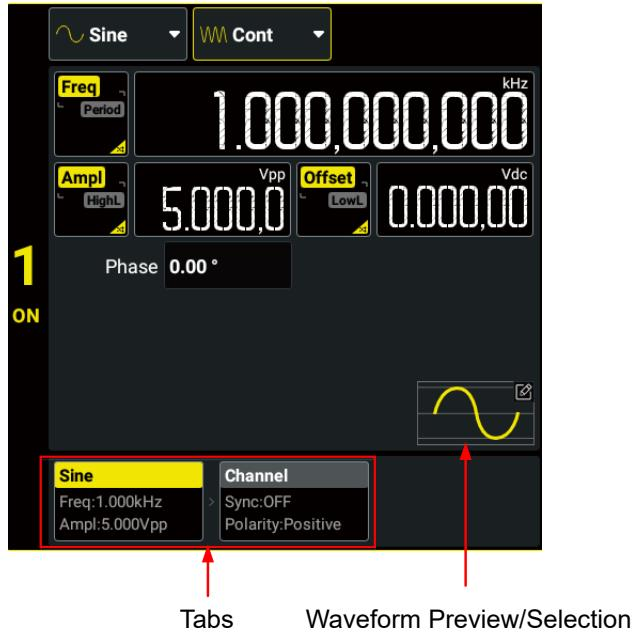

Figure 5.1 Continuous Setting Interface
- In the Continuous Setting Interface (*Figure 5.1*), click or tap the "Wave Type" drop-down button to select "Sine".
- In the Continuous Setting Interface (*Figure 5.1*), click or tap the "Waveform Preview/Selection" area and then click or tap **Built In Wforms > Sine**.
- In the Continuous Setting Interface (Figure 5.1), click or tap the "Wave Type" drop-down button to select "Square".
- In the Continuous Setting Interface (Figure 5.1), click or tap the "Waveform Preview/Selection" area and then click or tap **Built In Wforms > Square**.
You can also click or tap the "Channel" tab in Figure 5.1 interface to access the channel setup interface to configure channel output. For details, please refer to Channel Setup.
- In the Continuous Setting Interface (Figure 5.1), click or tap the "Wave Type" drop-down button to select "Ramp".
- In the Continuous Setting Interface (Figure 5.1), click or tap the "Waveform Preview/Selection" area and then click or tap **Built In Wforms > Ramp**.